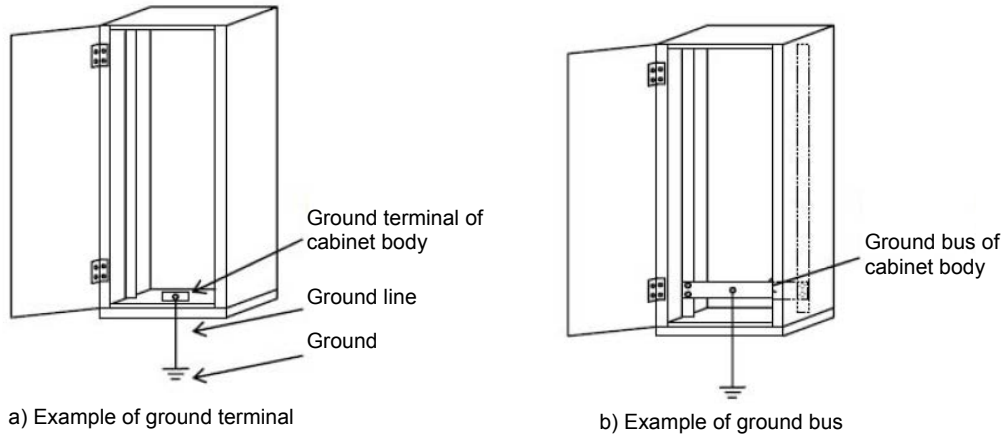

Figure 2: Example of cabinet body grounding
a) To ground the cabinet body, it is desirable to create grounding terminals in cabinets with few cabinet internal grounding wires and create grounding bus in cabinets with many cabinet internal grounding wires or cabinets placed side by side. However, if grounding terminals are created on each board and the grounding wire connects the grounding terminals, grounding buses are not required. Figure 2 shows examples of cabinet body grounding.